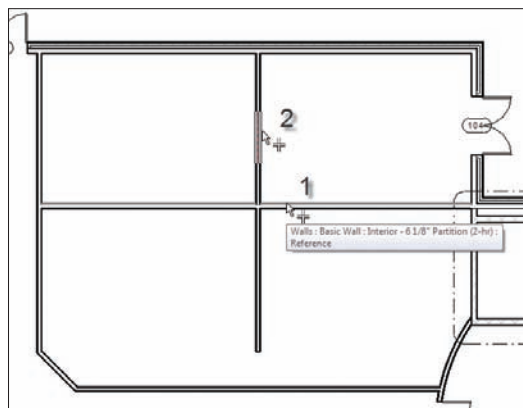

FIGURE 4.45 Pick a point along the wall to trim the wall back.
5. To trim the vertical wall back to the horizontal wall, you must first pick the wall you want to trim *to*. In this case, select the north face of the horizontal wall, as shown in Figure 4.45.
6. Now you must pick a point along the vertical wall. The trick here is that you must pick a point on the side of the wall that you want to *keep*. Pick a point along the vertical wall above (north of) the horizontal wall, as shown in Figure 4.45. After you do, the wall will be trimmed back.